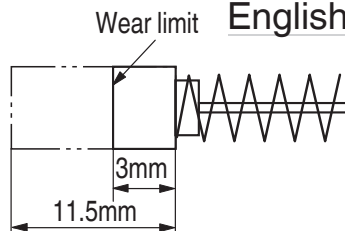

Fig. 15
5. Inspecting the carbon brushes (**Fig. 15**)